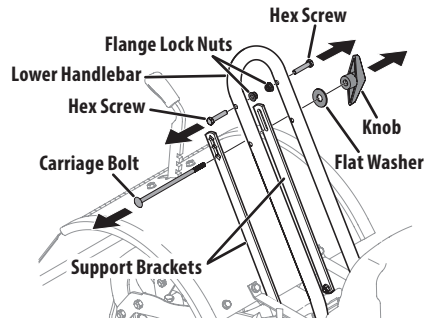

Figure 1
1. Remove two hex screws (5/16-18 x 1.50), two flange lock nuts (5/16-18), carriage bolt (5/16-18 x 6.75), flat washer (.349 x .879 x .063) and knob (5/16-18) from the lower handlebar and support brackets. See Figure 1.